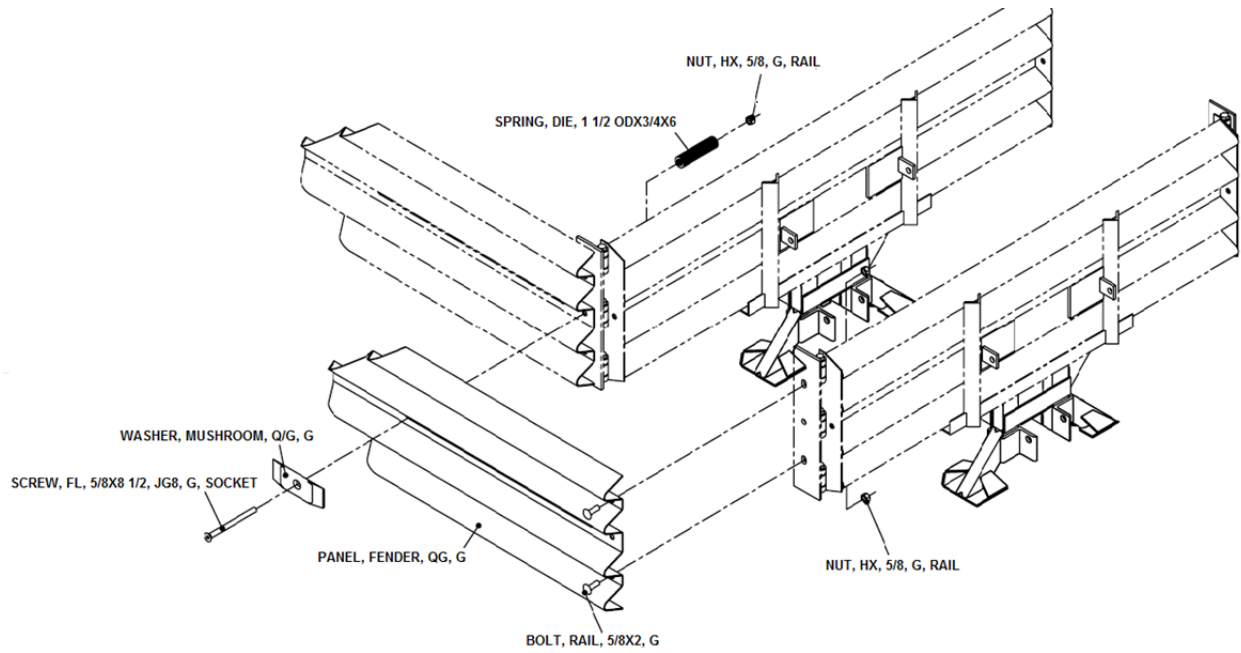

Figure 60
Starting at the last Bay, attach left and right Fender Panels as shown in Figure 60. Attach the hinge plate at the front of the Fender Panels to the Diaphragm in front using (3) 5/8" x 4" hex bolts, 5/8" hex nuts, and 5/8" lock washers.
Attach Mushroom Washer Assembly as shown in Figures 60 and 61 but do not torque at this time.